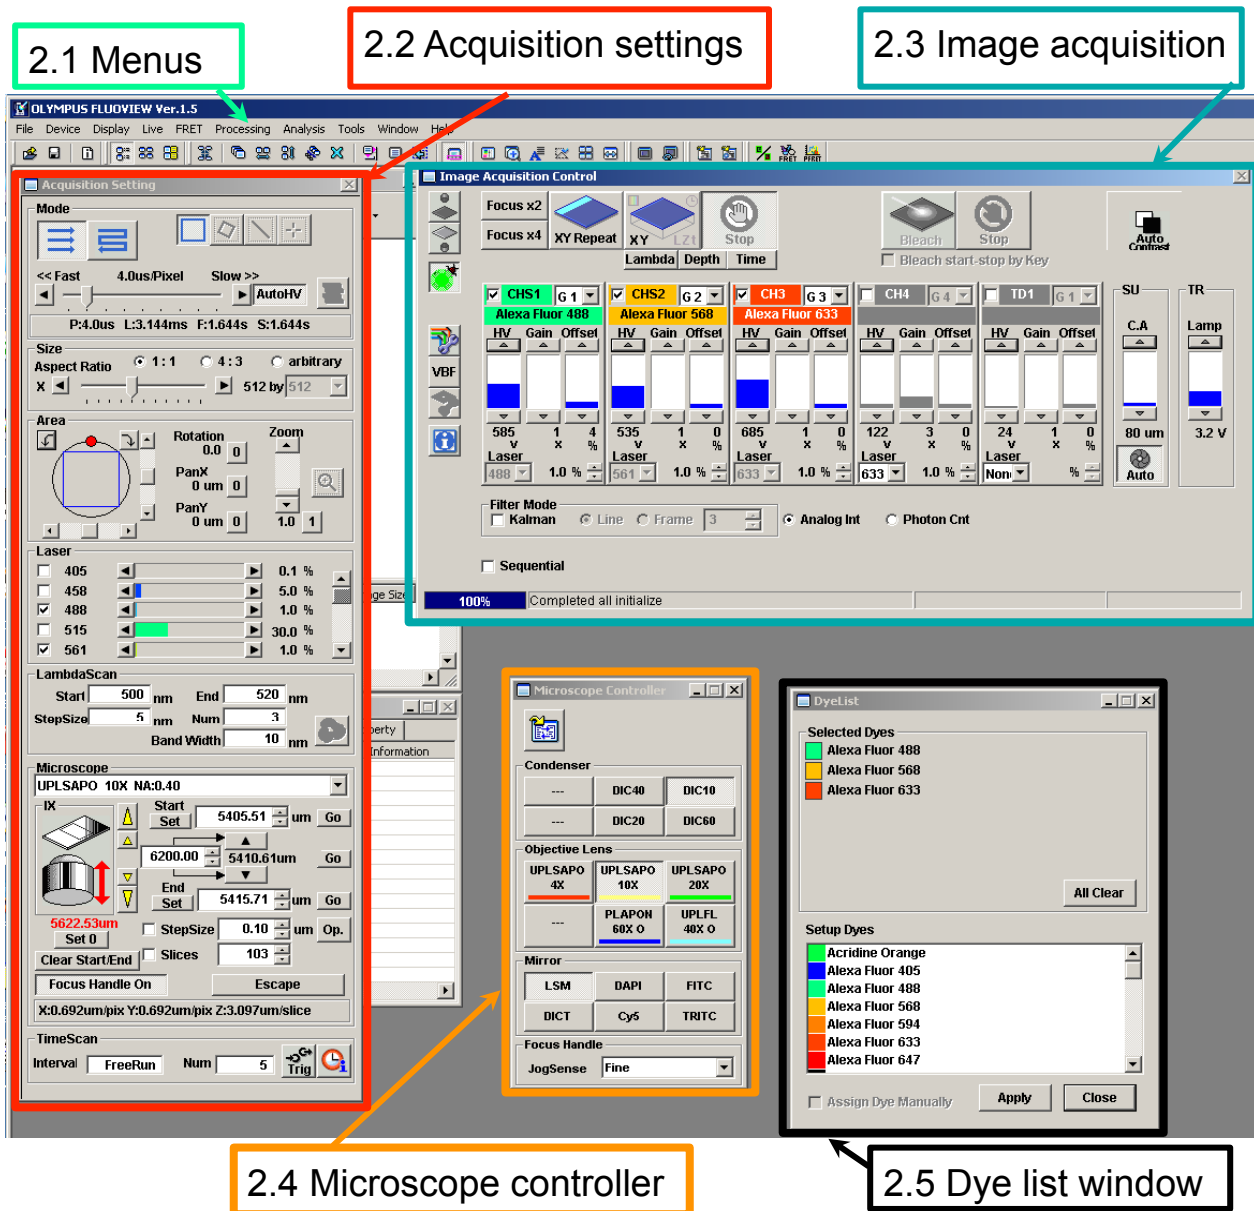

Figure 2. Enlarged view of Fluoview windows.
10. All microscope control must be through the Fluoview software windows, **Figures 2, 3**;